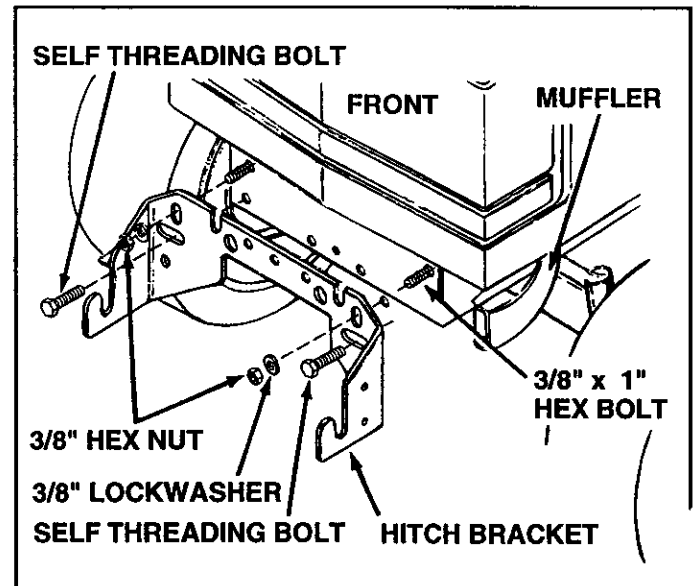

FIGURE 7
- Remove two self threading bolts from front cross-member of tractor. Assemble bolts through lower slots in hitch bracket, then reinstall them back into front crossmember. (Make sure notches at top of hitch bracket and crossmember are aligned.) See figure 7.
- From behind tractor's front crossmember, insert two 3/8" x 1" hex bolts through holes in crossmember (shown in figure 7) and through upper slots in hitch bracket. Secure with two 3/8" lockwashers and two 3/8" hex nuts.